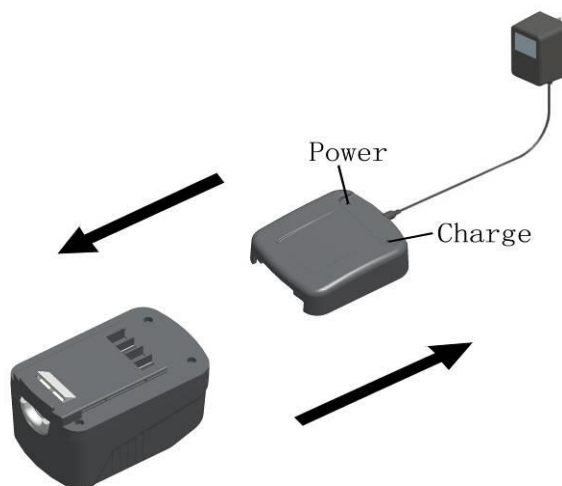

Fig.1
CHARGING THE BATTERY (Fig.1)
5. Place the battery pack in the tool and be certain that it is inserted fully into the tool cavity until it “clicks” into place. **(See Fig.1)**